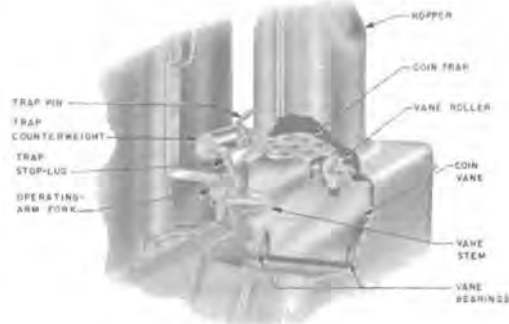

Fig. 57—Hopper and Rear of Two-Coil Coin Relay
- (3) Check trap for catching on vane or on vane roller as follows:
- (4) Check clearance between trap and vane roller as follows:
- Move vane to vertical position. If vane rubs on trap, adjust trap stop lug so that trap will just clear vane (Fig. 57).
- With vane in vertical position, lift trap counterweight. Trap should not move more than a few degrees before touching vane roller. Adjust by bending stop lug (Fig. 57).
- (5) Check operating arm fork and vane stem for roughness. Clean and lubricate as covered in 6.118. Also check operating stud. If stud is rough or roller type, replace relay.
- (6) Remount coin relay as covered in 6.119 and repeat trap and vane release test. If mechanism fails, replace relay.